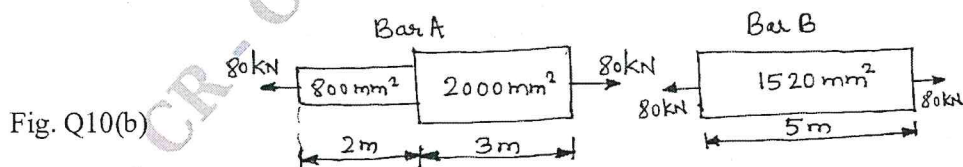

Fig. Q10(b)
- b. Calculate the strain energy stored in a bar shown in Fig. Q10(b), subjected to a gradually applied axial load of 80kN. Compare this value with what obtained in uniform bar of same length and having the same volume, when subjected to the same load.  $E = 2 \times 10^5\text{N/mm}^2$ . (10 Marks)